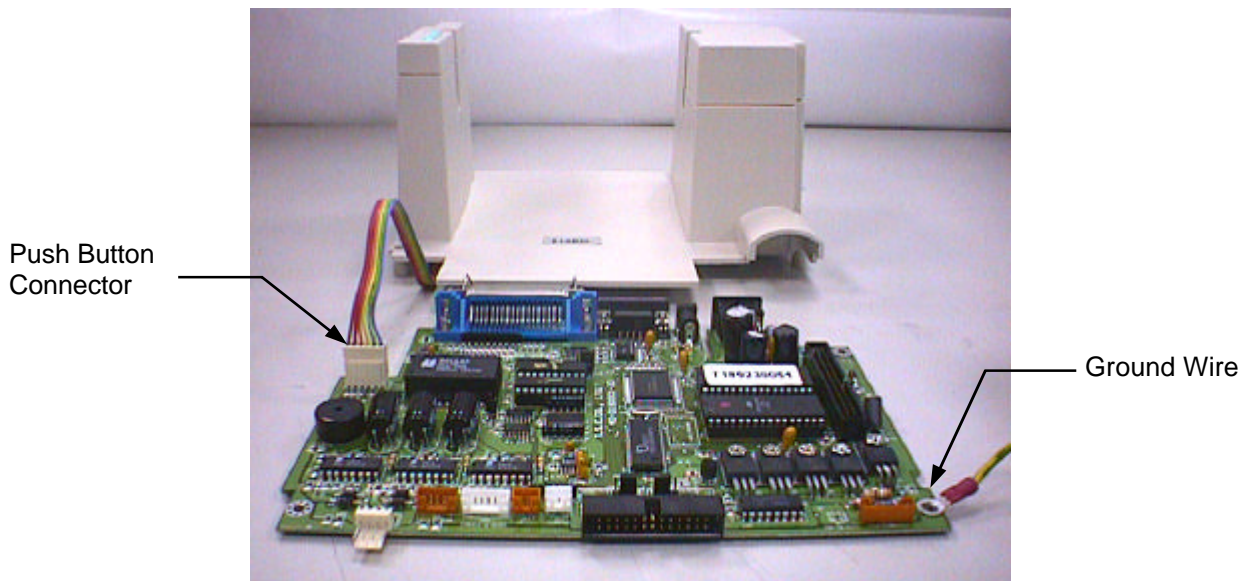

Fig. 3.19 Take out the internal label roll mount and remove the connector
11. Take out the internal label roll mount and remove connector JP1. (Cf. Fig. 3.19)